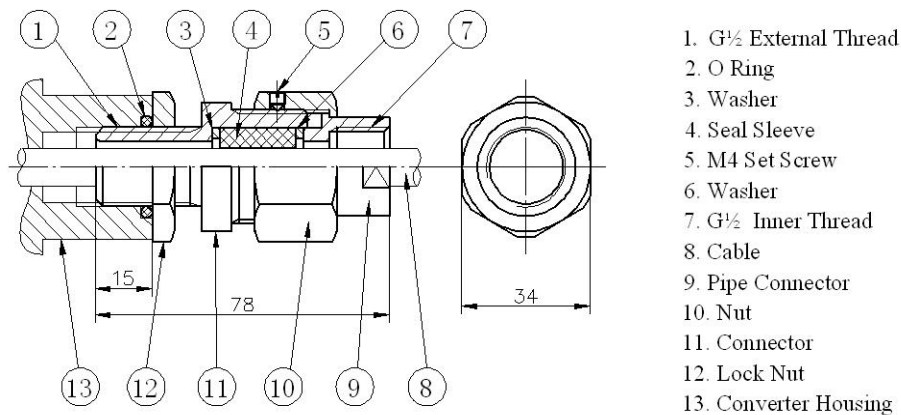

Fig. 5 Explosion-Proof Seal Connector
(2) Converter wiring (see Fig.5)
1) Installation of Explosion-Proof Seal Connector: (see Fig.5)